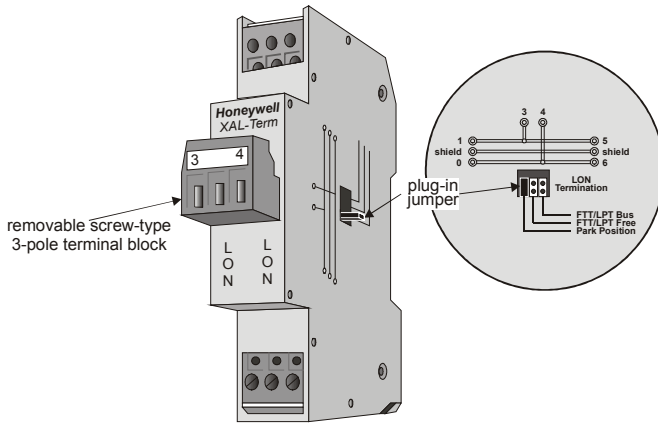

Fig. 81. XAL-Term
- XAL-Term LONWORKS connection and termination module (see Fig. 81), which can be mounted on DIN rails and in fuse boxes.